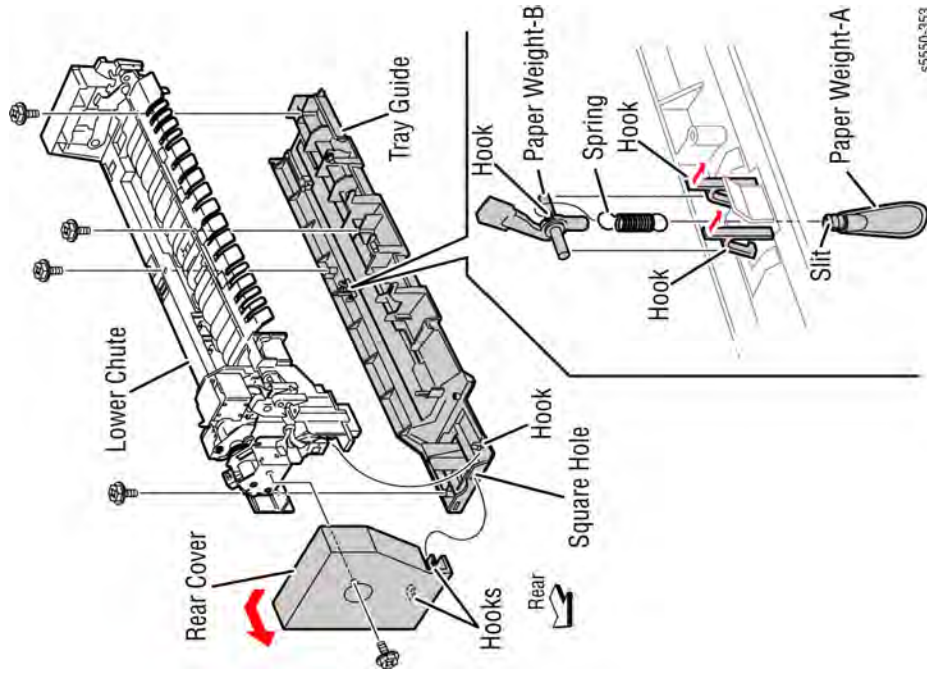

Figure 1 Removing the Stack Full Actuator
3. Release the hooks securing the actuator to the Tray Guide, as shown in Figure 1. Use care when releasing the Tray Guide hook.